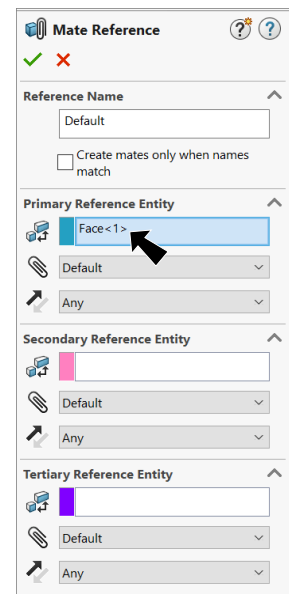

Fig. 22
Step 3. In the Mate Reference Property Manager click OK  , **Fig. 22**.